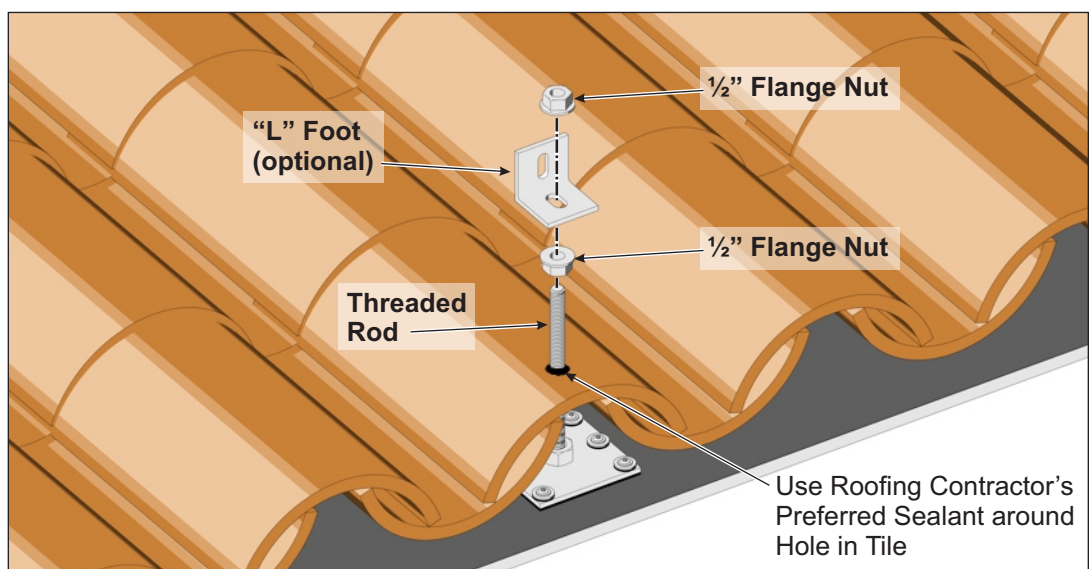

Figure 6: Attach “L” Foot & Seal Hole in Tile
- I. Attach the “L” Foot. First thread one ½” flange nut onto Threaded Rod with flange up. Place “L” Foot onto Threaded Rod and secure in place with the second ½” flange nut. Use the flange nuts to adjust the elevation of the “L” Foot as needed. Then lock the “L” Foot into position by back-driving the two flange nuts into the “L” Foot. (See Figure 6)